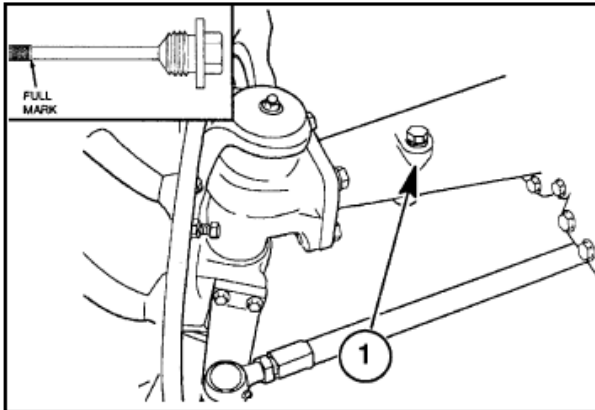

Figure 3-51
1. With the tractor standing level and the engine off, check the front axle oil level using the dipstick/filler plug (1) in Figure 3-51.